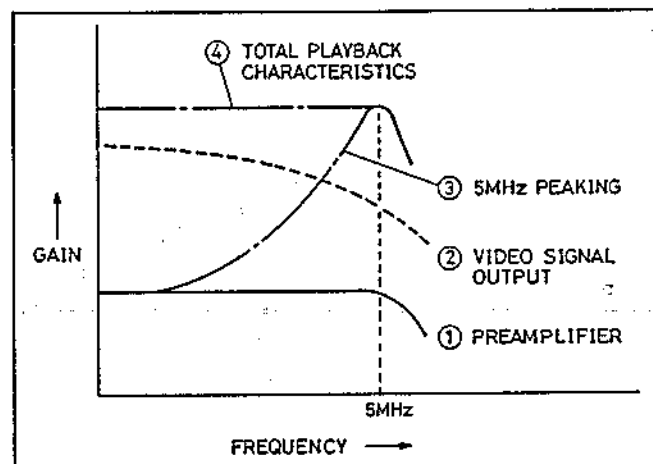

Abb. 5-21 Frequenzgang
(1) Wiedergabe-Entzerrer (CP201: 5MHz PEAK, Abb. 5-21)